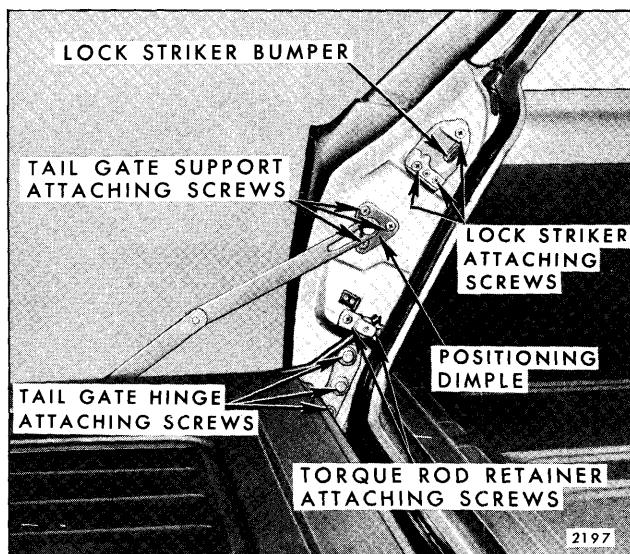
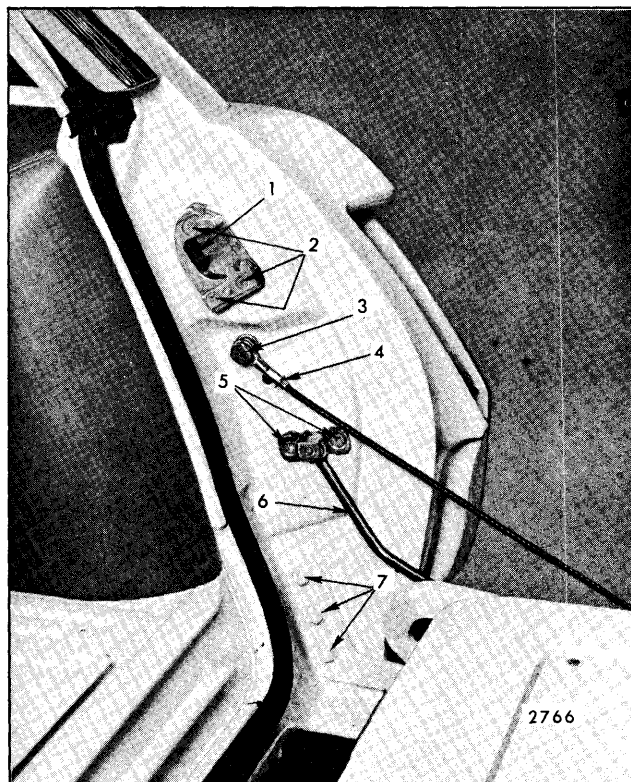

Fig. 9-4—Tail Gate Torque Rod, Hinge and Support Attachments "B" Body Styles
Fig. 9-6—Tail Gate Torque Rod, Hinge and Support Attachments "A" Body Styles
2. Remove tail gate hinge attaching bolts from tail gate and body (See Fig. 9-4 and 9-5 for "B" styles; Figs. 9-6 and 9-7 for "A" station wagons and typical of pick-up delivery styles).
2. On "B" styles, remove screws securing support to tail gate and to body lock pillar (Fig. 9-4 and 9-5). On "A" styles, remove bolts securing support to tail gate and to body lock pillar. Disengage support return spring (at body lock pillar or tail gate end) and remove support (See Fig. 9-6 and 9-7).
on the left body pillar as shown in Fig. 9-4. On "A" body styles, the retainer is located on the right body pillar (Fig. 9-6).